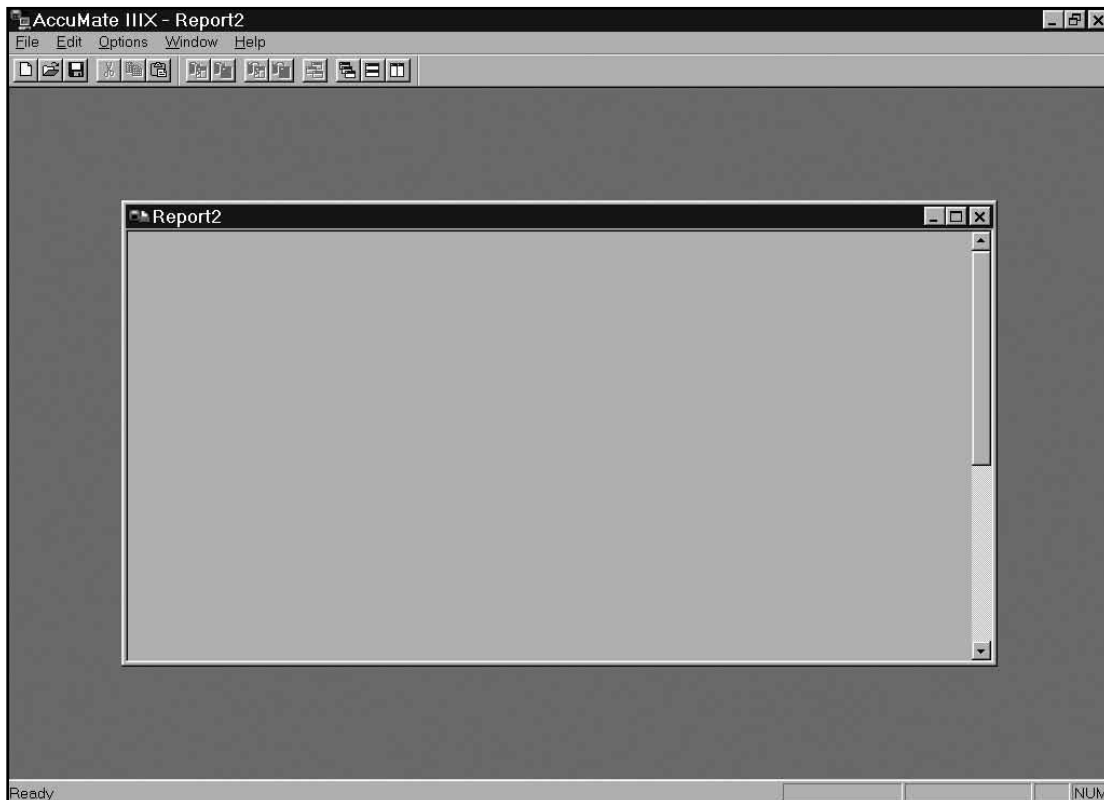

Figure 20
1. Access Report Editor by selecting *File|New|Report Configuration* from the AccuMate menu bar. A display similar to that shown in *Figure 20* below will appear.
- To display custom information such as a company name, select "User-defined Text," type the desired information in the "Item Value" box, and click "OK." The text will appear in the appropriate position on the report screen shown in Figure 20.